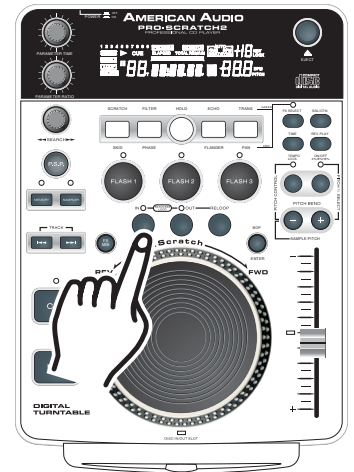

Figure 15
A cue point is the exact point playback will begin when the *PLAY/PAUSE BUTTON* (17) is pressed. You may set your cue points anywhere on a disc or in a track. You may set up to four independent cue points per disk. Three cue points are stored in the *FLASH BUTTONS 1-3* (8) and one is shared by the *IN BUTTON* (14), *BOP BUTTON* (30) and the *CUE BUTTON* (15). There are two (2) ways to set and create a CUE point as detailed in figures 15 and 16
- 1) You may press the *IN BUTTON* (14) on the fly (while the disc is playing). This will set a CUE Point without music interruption. Pressing the *CUE BUTTON* (15) will now return you to the same point that you pressed the *IN BUTTON* (14). You may now store this CUE Point in any of the *FLASH BUTTONS 1-3* (8). Pressing the *CUE BUTTON* (15), *BOP BUTTON* (30) or the *IN BUTTON* (14) will now return you to this exact point.